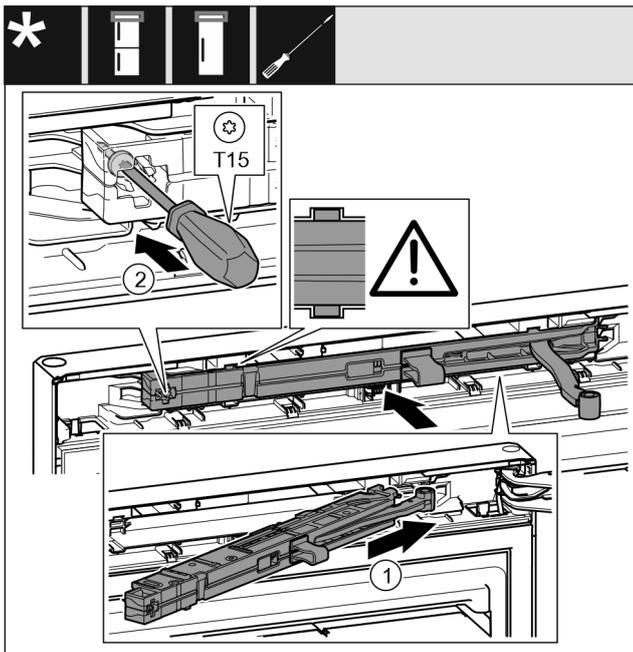

Fig. 25
- ▶ Slide the soft stop unit on the bearing bracket side at an angle into the slot as far as it will go. *Fig. 25 (1)*
- ▶ Tighten the screw with a T15 screwdriver. *Fig. 25 (2)*